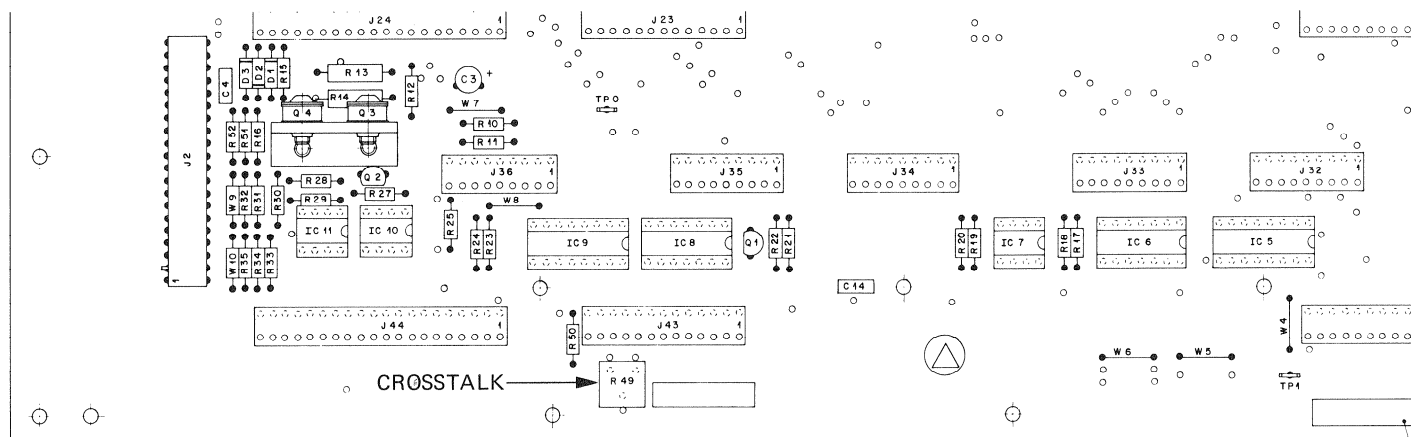

Fig.4.4.6
- With the CROSSTALK potentiometer on the audio base board 1.727.400 or 1.727.401 (see Fig. 4.4.6), align for minimum output voltage. Repeat the same measurement with swapped channels. If large deviations occur, find an optimum value for both channels.